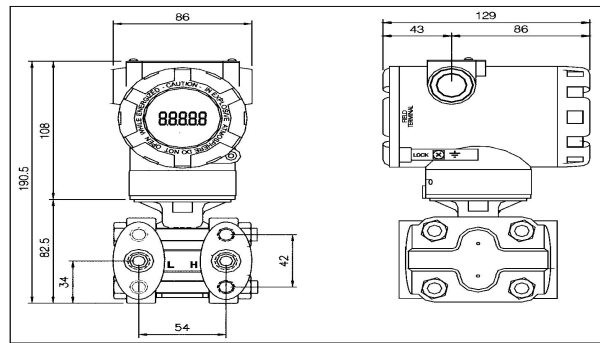

Figure 1-1 Smart Transmitter Size (Unit: mm)
- Smart Transmitters Size shown as Figure 1-1: